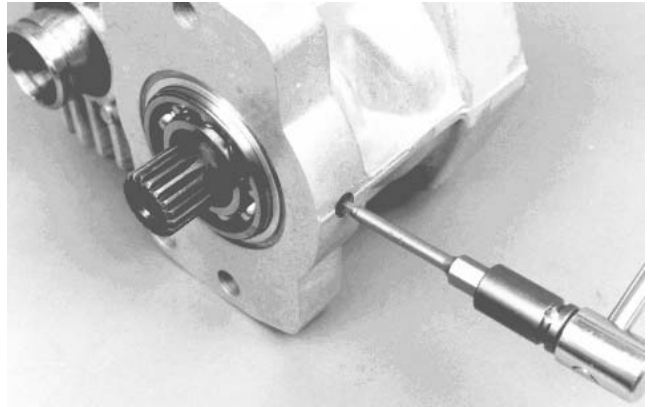

Figure 64
12. Install pipe plug over motor shaft bearing retaining pin and tighten to a torque of 6 to 9 ft.-lb (8 to 12 N-m) (Fig. 64).